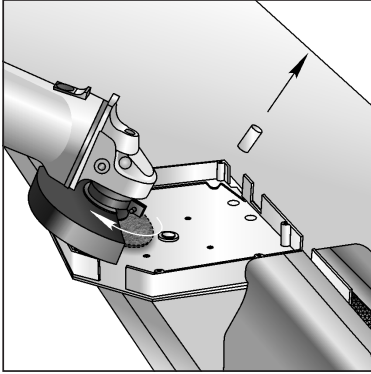

Fig. 01
- a) If SF137-SF205, SF250/S caps are used, it is necessary to cut off the central shank of the cap flush with the wall for the cap installed at the side of the drive (Fig. 01);